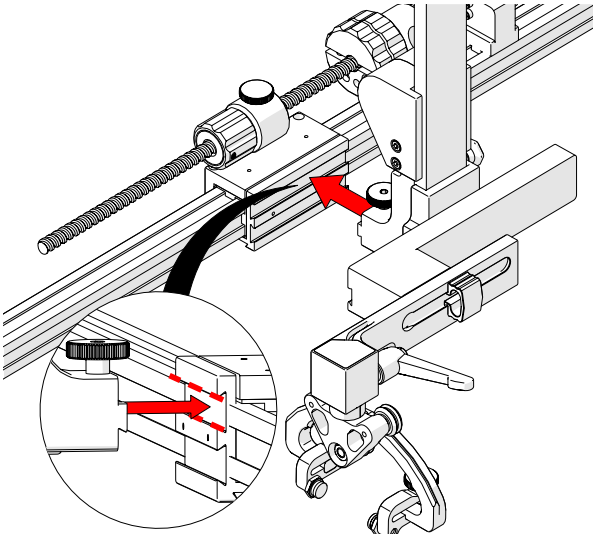

Fig. 205 - Mount to slider pps
2. Loosen the probe holder adjustment knob to attach the encoded skew vertical probe holder to the slider pps slider (Fig. 205).